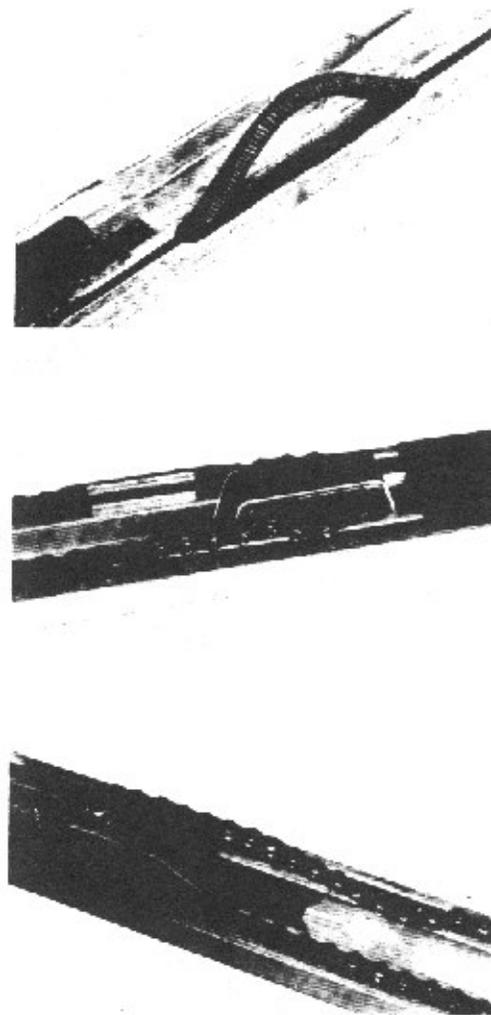

figure 8
2. TROUBLESHOOTING (fig. 8)
- b. Depress the tang which holds the middle lift post in place. Push down on the middle extrusion (fig. 8). This will expose the cable so that the cable can be removed.